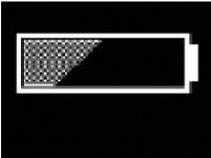

Fig. 16
The display showing a half empty battery indicates that it is time to charge the battery (Fig. 16).
To avoid possible permanent damage to the battery, the battery should be placed on charge as soon as the display indicates the half empty battery symbol (Fig. 16).
**To avoid possible permanent damage to the battery, the battery should be placed on charge as soon as the display indicates the half empty battery symbol (Fig. 16, page 14).**